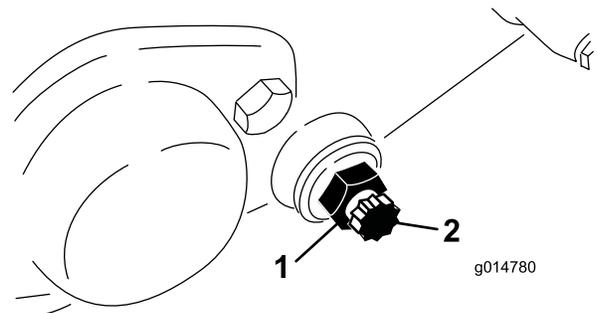

Figure 55
4. Remove each bedbar bolt allowing the bedbar to be pulled downward and removed from the machine. Save the 2 nylon and 2 stamped steel washers on each end of the bedbar (Figure 55).
3. On each side of the machine loosen the jam nut securing the bedbar bolt (Figure 55).